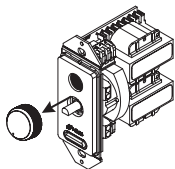

Figure 1
2. Pull the knob off the shaft. (Figure 1)
5. Locate the new knob. Align its flat side to the flat side of the shaft, and push the knob onto the shaft. Holding the unit as shown in Figure 1, check the alignment of the knob by turning it through all positions.